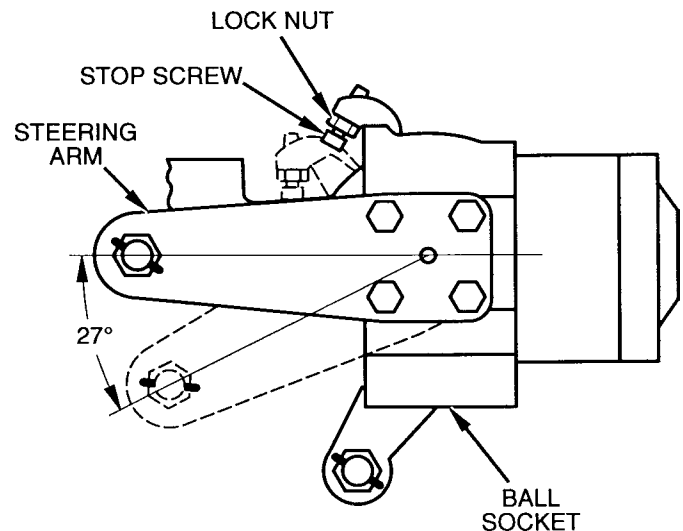

Figure 6 Steering Stop Adjustment Left-Hand Turn
27. Back off nut to align slot in nut with nearest groove in skein (39). If nut (57) tightens halfway between slots in skein (39), remove and turn it over to obtain proper alignment.
- Lock plate (61) into slot in nut (57)
- Lockwasher (62)
- Bolt (56) and tighten bolt securely
29. Pack groove of hubcap (58) with grease and coat mating surface of cap with Loctite.
30. Install hubcap on hub (55) with ten bolts (60).
31. Torque bolts (60) to 187 lb. ft. (253 N•m).
32. Install two bolts (59) in hubcap (58). Torque bolts (59) to 55 lb. ft. (75 N•m).
34. Adjust steering stops if ball sockets or trunnion bearings were removed or if original adjustments were changed. Adjust stop bolt to 27°. Measure at steering arm. (See Figure 6).